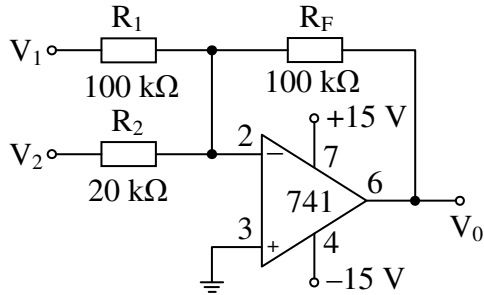

Fig. 9.14 Summing amplifier
1. Construct the circuit of Fig. 9.14. Measure and record resistor values: